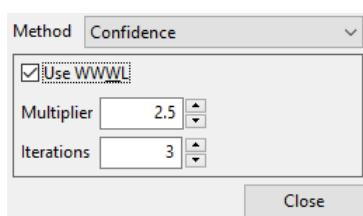

Figure 6.29: Confidence parameter.
- **Confidence:** This method starts by calculating the standard deviation and the mean value of the pixel selected by the user and its neighbourhood. Connected pixels with value inside the range (given by the mean more and less the standard deviation multiplied by the **Multiplier** parameter). It then calculates the mean and the standard deviation from the selected pixels, then carries out the expansion. This process is repeated according to the **Iterations** parameter. Figure 6.29 shows the parameters for this method.